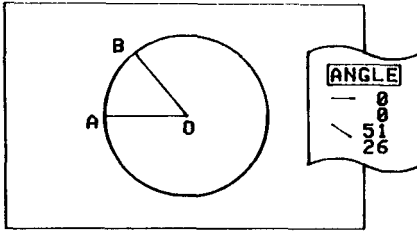

Fig 3
- 7 Draw the radial (OB) as in Fig 3, then switch off ANGLE.